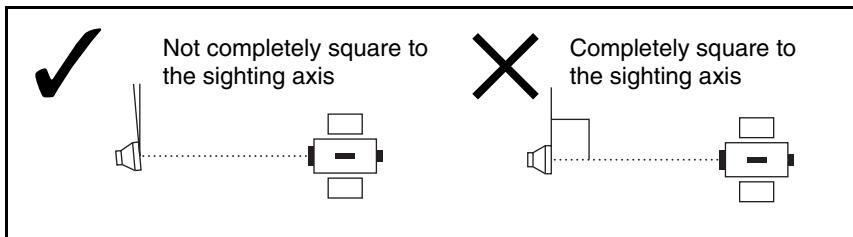

Figure 2.2 Angling the prism
- When measuring a short distance, incline the prism slightly so that the EDM can ignore unnecessary reflections on the prism surface, as shown in Figure 2.2.